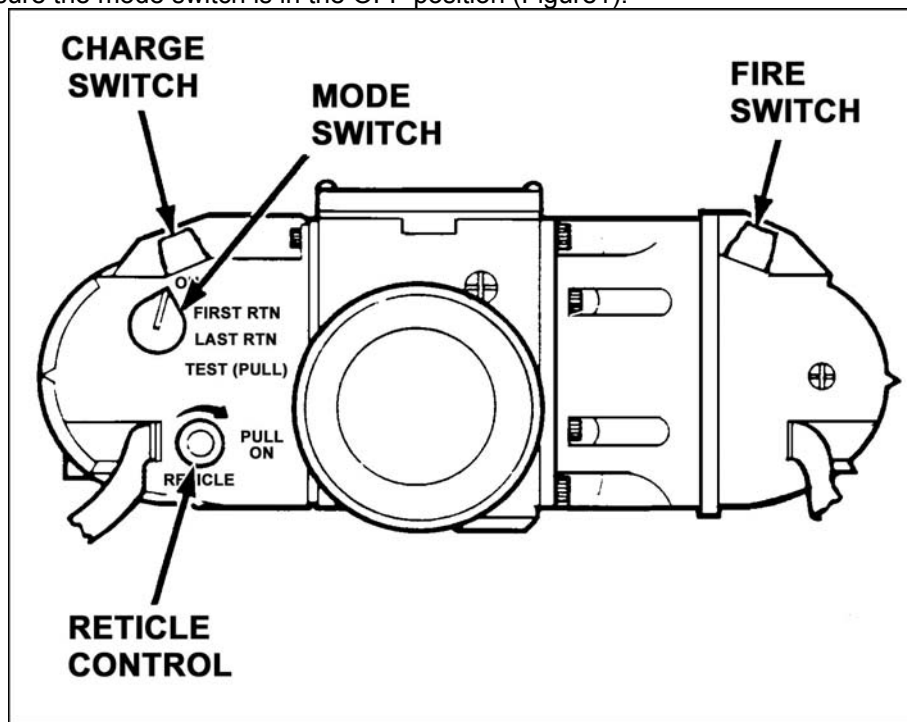

Figure 1. MELIOS controls and indicators.
- c. Ensure the mode switch is in the OFF position (Figure1).